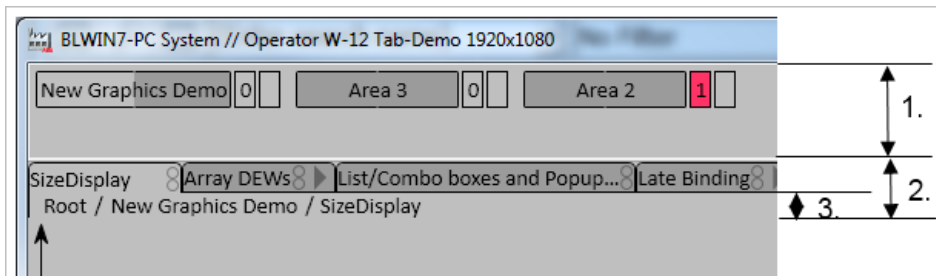

Figure 110. Heights. 1-Button Height, 2-Tab Height, 3-Breadcrumb Height
- Height** - Specifies the height of the button area. This can be changed to view one or two rows of buttons when more number of buttons are being displayed within screen width. The button height decides the tab height. The tab height will be the pane height minus the button height (see Figure 110). If breadcrumbs are used, tab height will be pane height minus button height minus breadcrumb height. Tabs will always occupy the remaining space within a pane.
Area Height specifies the height of the breadcrumb list. The area height decides the tab height. The tab height will be the pane height minus the breadcrumb height (see Figure 110). To ensure the visibility of the tabs and the breadcrumb, the user must update the height specified for the tab in the **XML** tab of the **Screen Layout** aspect on the Tabbed Workplace object in the **Workplace Structure**.